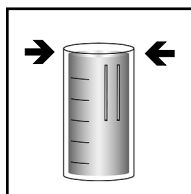

Figure 1
1. Fill the dilutor snapper cup to the -ml- mark with **distilled water** (fig. 1).